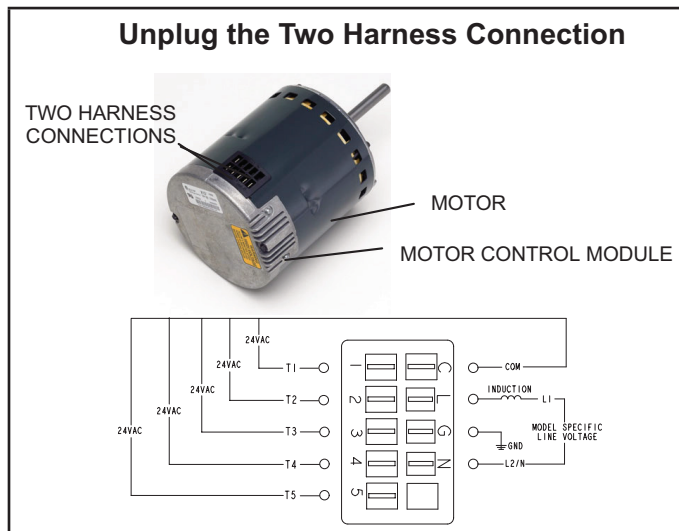

FIGURE 10
- 3 - Unplug the two harnesses from the motor control module. See FIGURE 10.